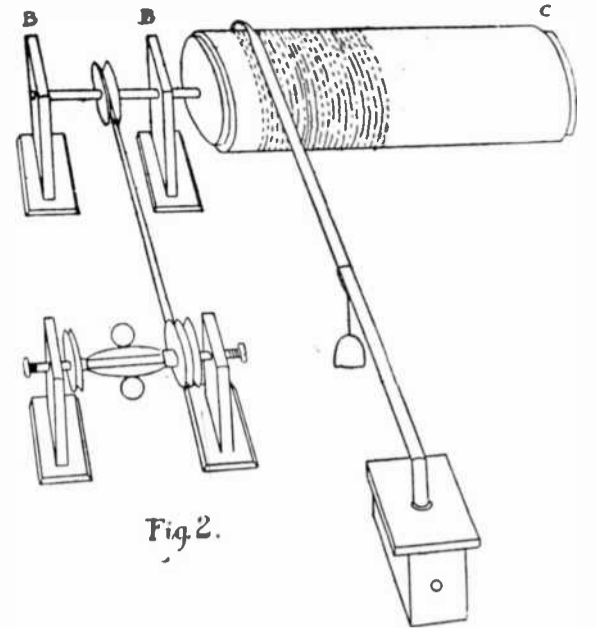
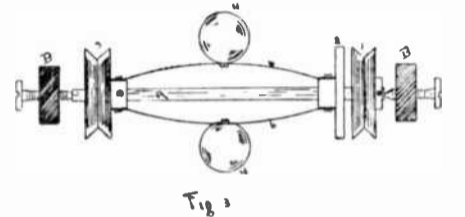

Fig. 2.
Fig. 3
Next procure a piece of  $\frac{1}{4}$ " glass tubing and bend (by heating in a flame) as in A; the point A1 should be drawn out as small as possible and smoothed off by holding in the flame until it melts and runs together; this forms the reproducing stylus. Get a piece of wood turned as C and through the centre of this drive a steel rod C1  $\frac{1}{8}$ " diameter; this should extend 2" out of one end and come flush at the other. Make two standards (as in H) and bore holes for shaft  $\frac{1}{2}$ " from top of same, these can be made of wood or brass, if made of wood the bearings should be bushed to prevent wear. They should now be mounted on base (Fig. 2. BB) and the cylinder or mandrel (C) set in place. The machine may be operated by hand power, spring or electric motor, or it may be mounted on a sewing machine top and be run by foot power. The writer gives a description of a friction governor which must be used if operated by hand or foot power (see Fig. 3). A is a  $\frac{1}{8}$ " shaft, B and B are pivot bearings to support same, a pulley (1) should be fastened by means of a set screw (a). A piece of brass (2) is next turned and fit to the shaft so it will move free on same; another piece (3) is turned for a pulley, two pieces of spring steel (6—6) are fastened from 2 to 3 with small screws and to the centre of each
spring fasten a metal ball  $\frac{1}{2}$ " diameter, the pulley (3) is fastened to shaft and is belted to driving wheel of sewing machine or hand power; the pulley (1) is also turned of brass and belted to machine. The machine should run about 120 revolutions per minute, and by moving pulley (1) on governor backwards or forwards on shaft this speed may be obtained. Fig. 2 shows machine completed. A small weight should be suspended from the glass tube (A), this will cause the stylus to follow the thread or groove on record. Procure an ear tube, which may be purchased from any Phonograph supply house at a low price, and insert the end of same in the hole Fig. 1 Ea, slip
the wax record (also obtainable at the Phonograph supply house) on the mandrel (C) (Fig. 1) and set the glass stylus in the thread or groove at pulley end of mandrel, place the ends of tubes in the ears and start the machine. Should the reproductions not be clear remove the mica in diaphragm and substitute a thinner piece. Care should be taken that the governor balls (Fig. 3, 4—4) and springs are of the same weight, as a difference in the weight of balls or of the tension in the springs would cause the governor to vibrate